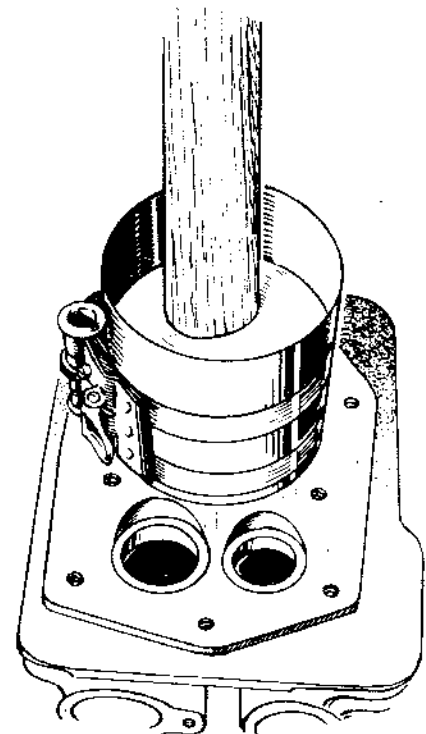

FIGURE 44. INSTALLING PISTON AND CONNECTING ROD
2. Lubricate the number one piston assembly and the inside of the cylinder. Compress the rings with a ring compressor as shown in Figure 44.
4. Tap the piston down into the bore with the handle end of a hammer until the connecting rod is seated on the journal (Figure 44). Install the bearing cap on the rod. Install and tighten the bolts evenly, in steps, to the specified torques.